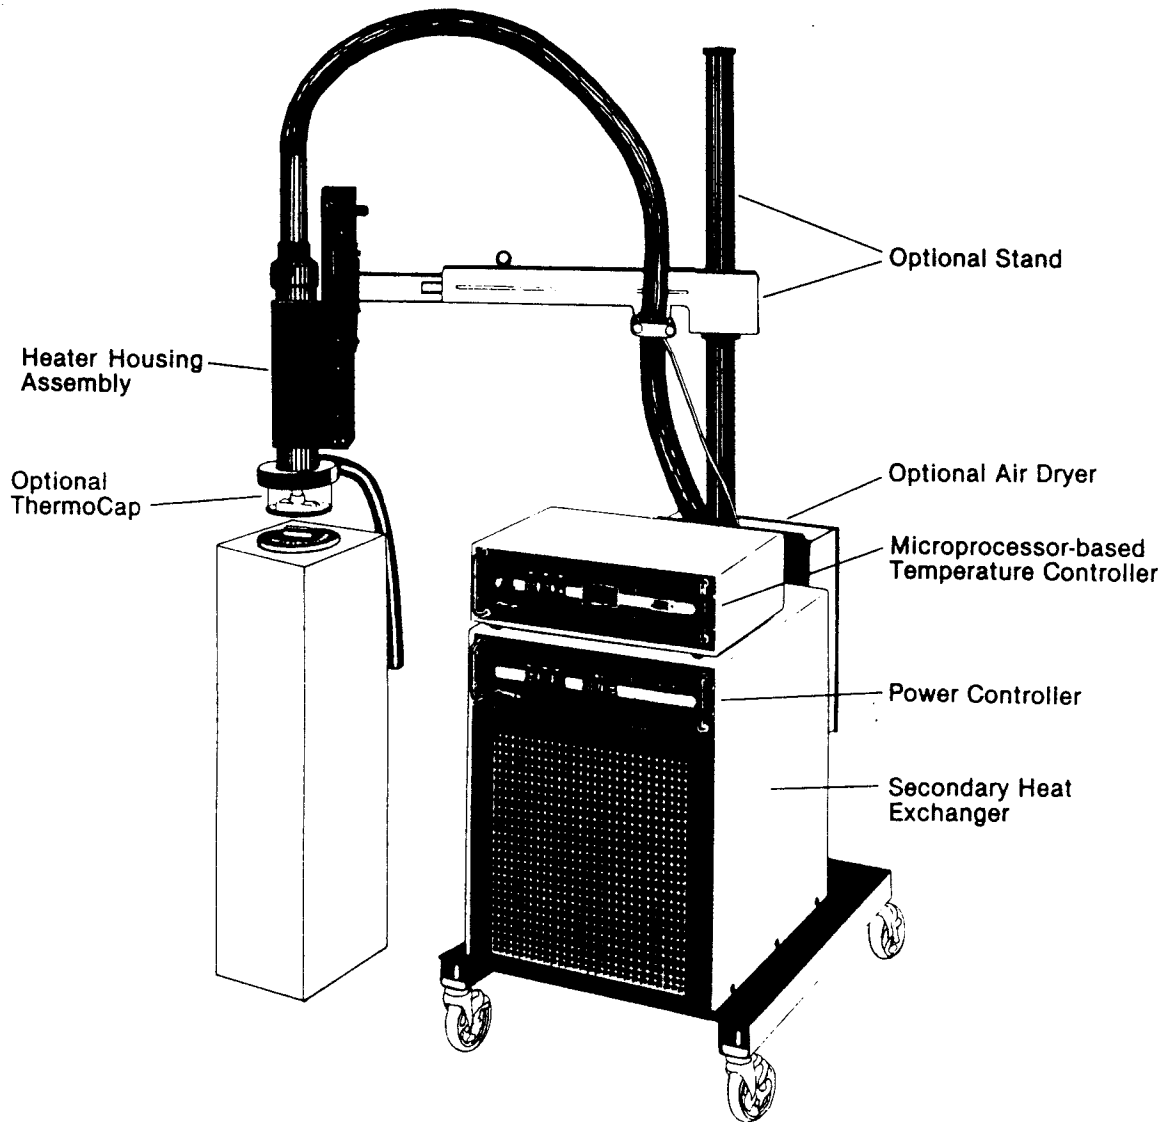

Figure 1-1. Typical TP0412A ThermoStream^R System
This system is comprised of four basic components, See Figure 1-1. A microprocessor-based temperature controller (1) which may be positioned away from the other components, allows the desired test temperature to be input and gives a digital readout of the gas stream temperature. A secondary heat exchanger (2), a cascade refrigeration system, to cool the gas stream on its way to the primary heat exchanger. A power controller unit (3) distributes all ac and dc power to the other assemblies and accessories as well as provides gas flow indication and control. The primary heat exchanger (4) houses the heater and directs the stream of temperature controlled dry gas at the device under test (DUT). It also supports the optional ThermoCaps which interfaces to the tester and the enclosures used to encapsulate the DUT.